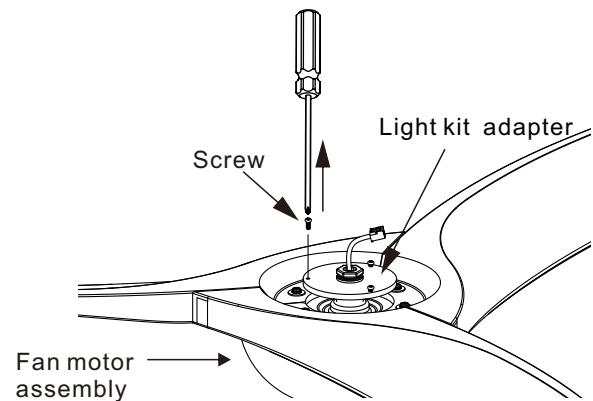

Figure 6
Step 1. Remove 3 screws from light kit adapter. (Do not discard) (Fig. 6)